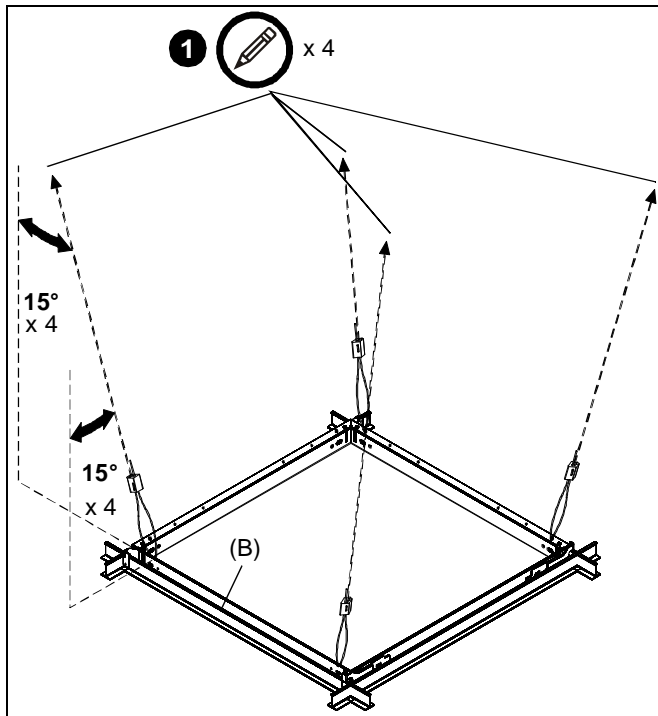

Figure 4
1. Examine ceiling structure (concrete, steel truss, or wood) above SL220 frame (B) to identify four support cable anchor locations. Each location should be approximately 15° outside of support holes in SL220 frame (B). Mark locations with pencil. (See Figure 4).